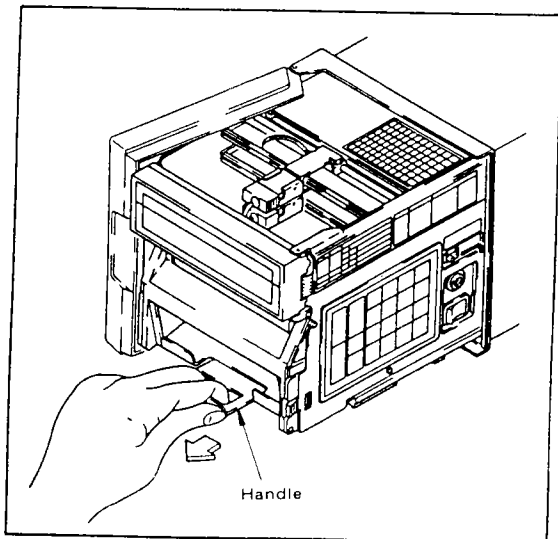

Figure 6-10.
- (2) Pull out the internal assembly as far as possible. (To pull out the internal assembly, be sure to use the internal assembly handle as shown in Figure 6-10).